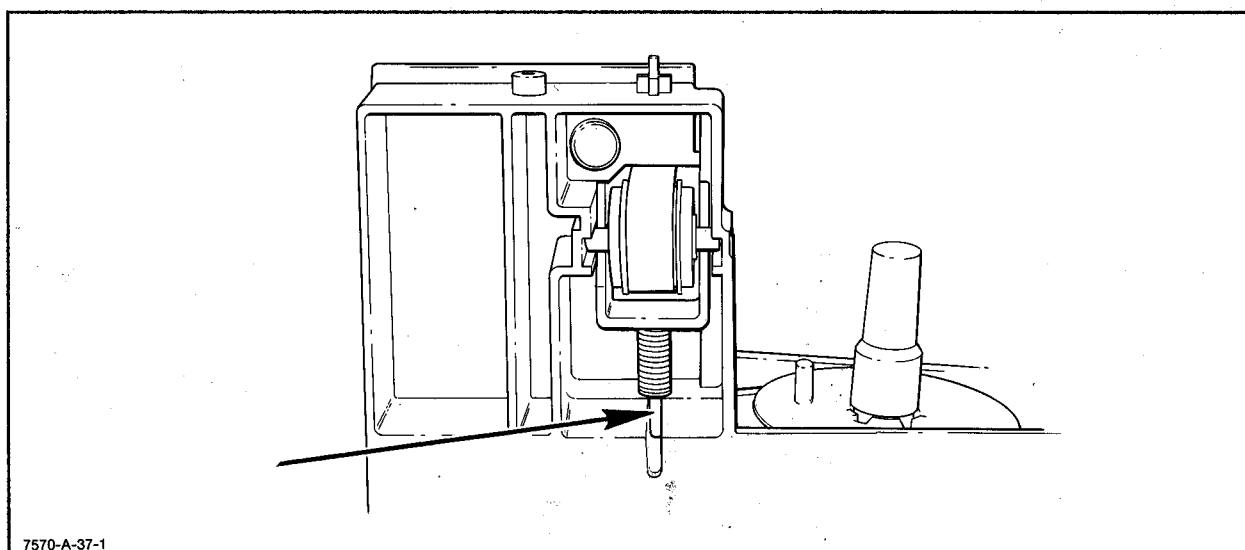

Figure 6-34. Main Belt Tensioner
- c. Reach up under the edge of the left-hand chassis and very carefully pull the tensioner tab toward the end of the plotter. Position the other hand against the spring to prevent the spring and tensioner from snapping loose. See Figure 6-34.